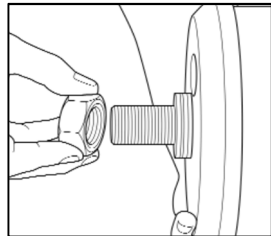

Fig. 11
13. Attach the Rear Bush Tool (RBT) "F" to the funnel "D" and secure in place with the bearing cups, bearing race "B" and nut "A" (Fig. 11).